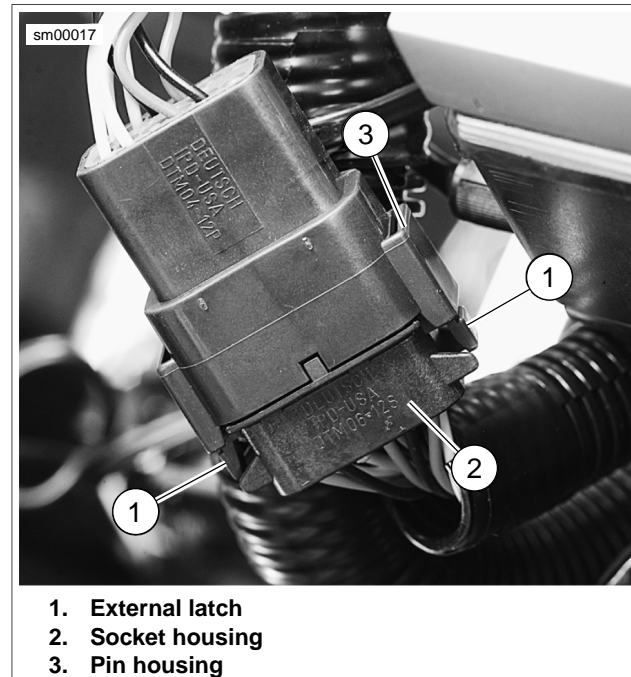

Figure A-17. Deutsch Connector
See Figure A-17. To separate the connector halves, depress the external latch(es) (1) on the socket housing (2) while rocking the pin (3) and socket housings.